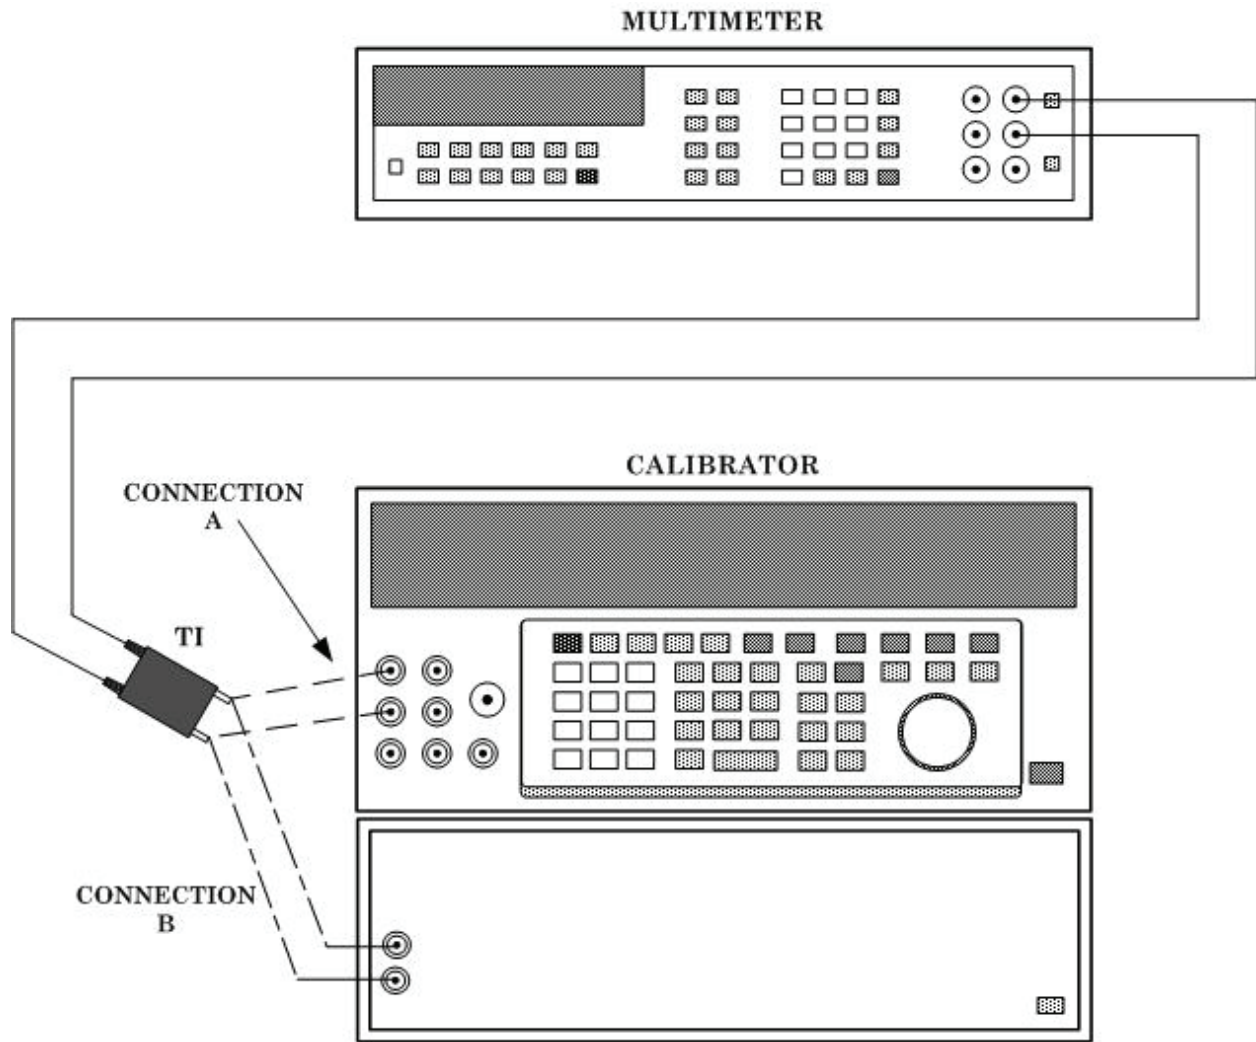

Figure 2. Shunt accuracy.
- b. Connect equipment as shown in figure 2 **CONNECTION A**.
(1) Set calibrator for a 1 A dc output. Multimeter will indicate within the limits specified in first row of table 3.
(2) Set calibrator to **STANDBY** and connect equipment as shown in figure 2 CONNECTION B.
(3) Repeat technique of (1) above for calibrator outputs listed in table 3. Multimeter will indicate within the limits specified in table 3.